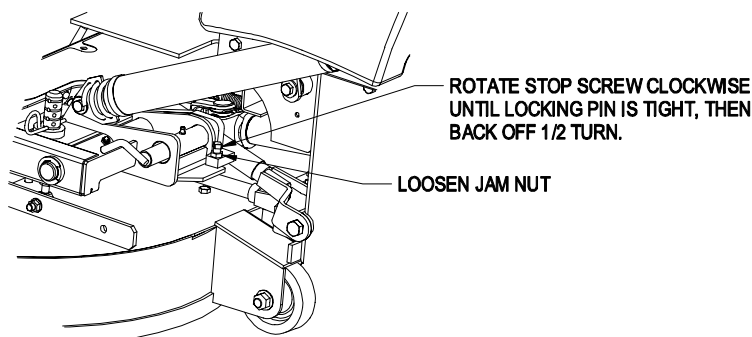

FIGURE 10
- Loosen the jam nut and turn the stop screw clockwise until the locking pins is tight and cannot be rotated by hand. See Figure 10.